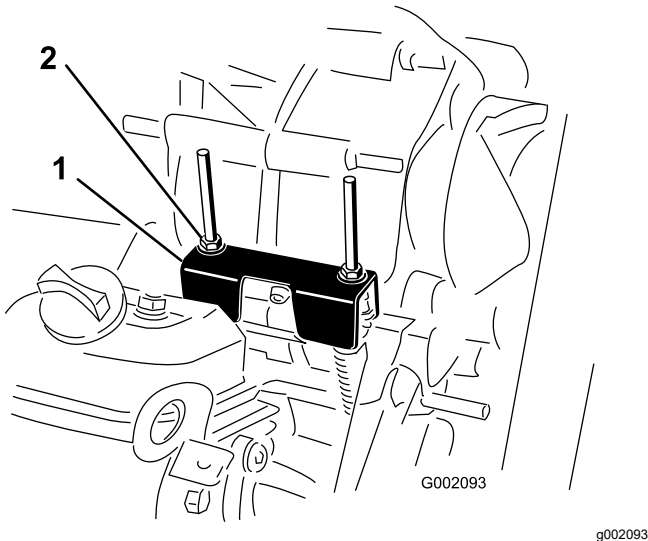

Figure 59
When performing routine maintenance and/or engine diagnostics, the transaxle must be shifted into NEUTRAL (Figure 59). The machine has a NEUTRAL position on the shift lever, which controls the neutral in the transaxle. Perform the following steps to ensure that the neutral shift lever operates the transaxle neutral correctly:
2. Ensure that the neutral bracket is in the NEUTRAL position (level to the cable mounting bracket located below the shift bracket) by turning the driven clutch (Figure 59).
3. Rotate 1 of the locknuts (Figure 59) to achieve a 0.762 to 1.524 mm (0.030 to 0.060 inch) gap between the bottom of the nut/washer and the neutral bracket.